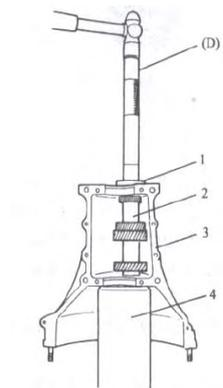

Fig 10-72
(1) Drive counter shaft front bearing into lower case. Then using plastic hammer, drive counter shaft into front bearing a little. In the above state, using bearing installer (D) (special tool), drive center bearing onto counter shaft and into lower case. (FIG.10-72)